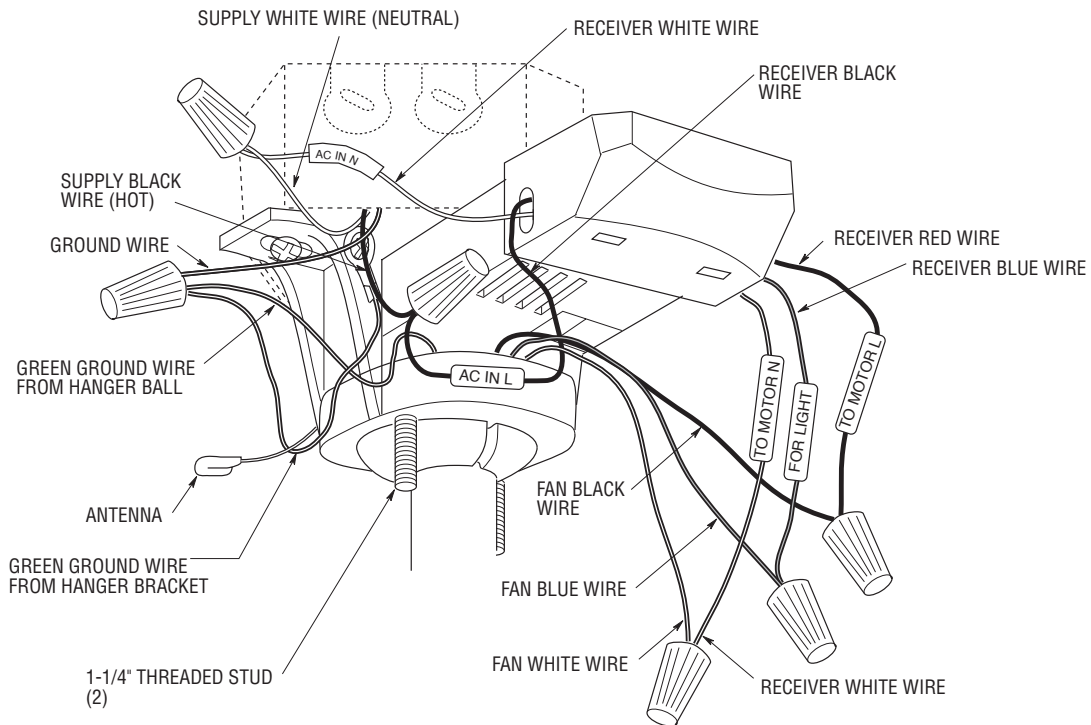

Figure 17
1. Position the supply wires to the left side of the outlet box (Figure 17); position the fan wires to the right side. Partially insert the remote control receiver (flat side up) until one end rests on the hanger ball as shown in Figure 17.
2. Refer to Figure 17 and 18 and connect the receiver wires to the supply wires and the fan motor wires as follows: